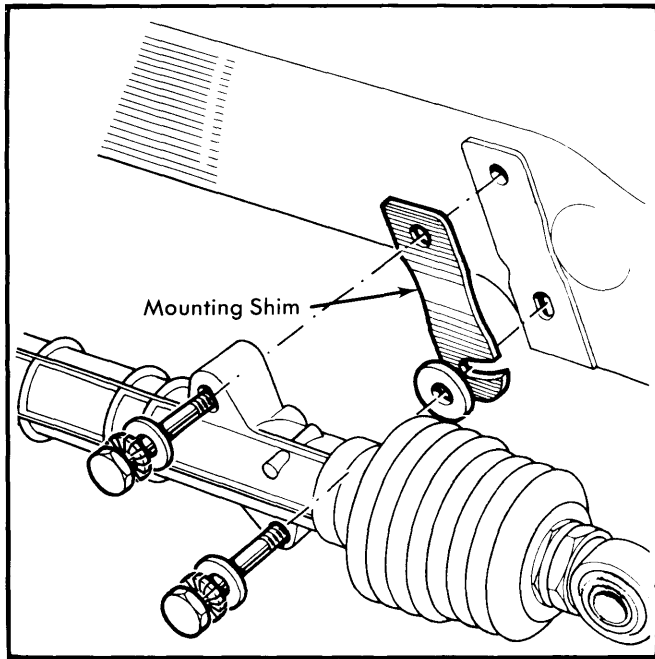

Fig. 4 Detailed Location of Mounting Shims (R-12 Shown, R-5 & R-17 Similar)
5) On R-12 with Auto. Trans., an adjusting shim is inserted between each mounting boss and steering box. Lower slot of each shim varies, depending upon height setting desired. Using a shim with greatest distance between top mounting hole and lower mounting slot will give steering box its lowest setting (See Fig. 4).